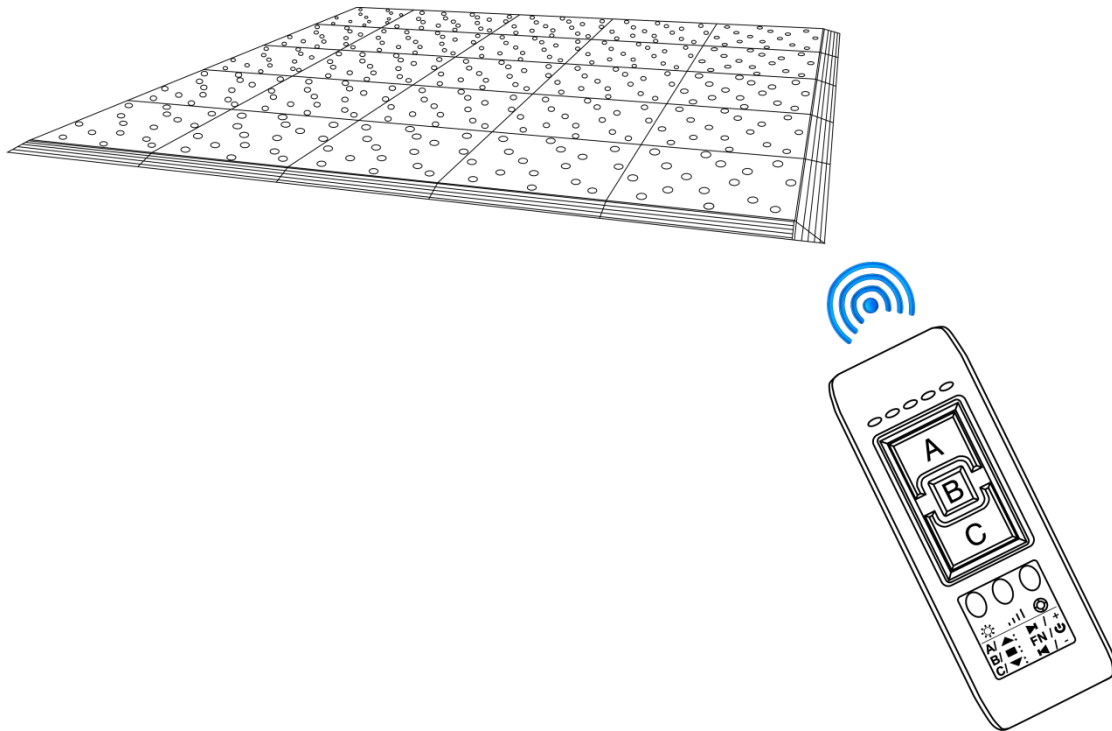

Fig. 11
- 02) Use the remote control to operate the dancefloor, see figure 11.